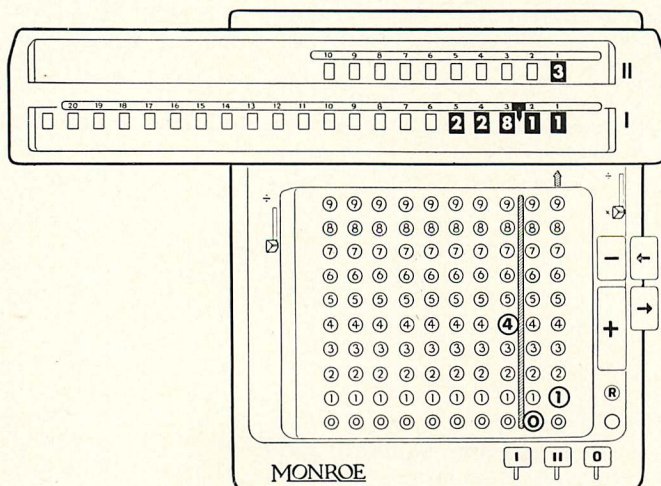

Figure 16
*Step 3*—Continue in the same way for the other extensions, in each case clearing only the upper dials. After completing the last extension the lower dials show 228.11, checking the total of the invoice. Figure 16.